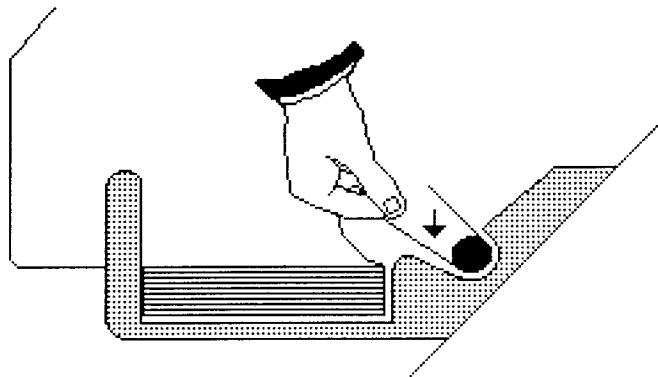

Fig. 1
- 2) place the pack of paper in the holder as in fig. 1; make sure that the black cue mark (the little black square) on the edge of the paper, is on the bottom side of the paper and that the printed side is not showing.